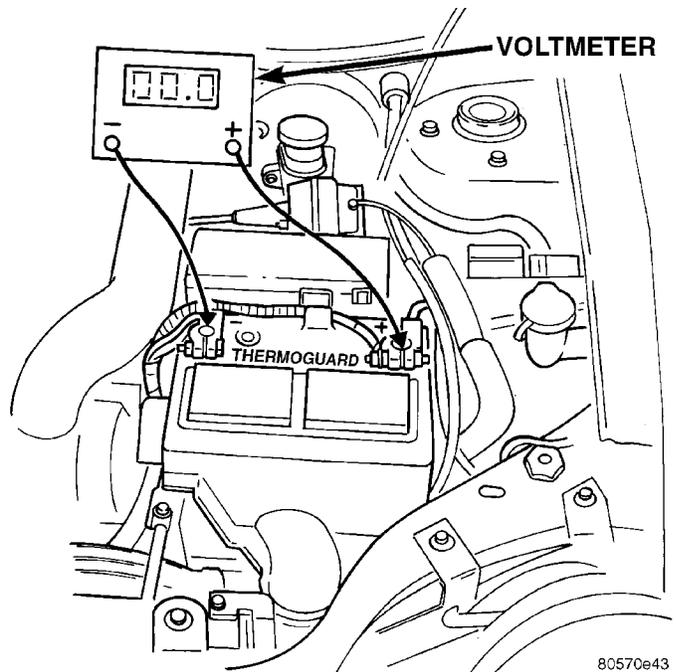

Fig. 4 Battery Voltage Test
- (1) Start engine.
- (2) Place heater blower in high position.
- (3) Turn on headlamps and place in high-beam position.
- (4) Turn vehicle interior lamps on.
- (5) Start engine. Bring engine speed up to 2400 rpm and hold.
- (6) Testing (- ground) circuitry:
- (a) Touch the negative lead of voltmeter directly to battery positive **POST** (Fig. 4).